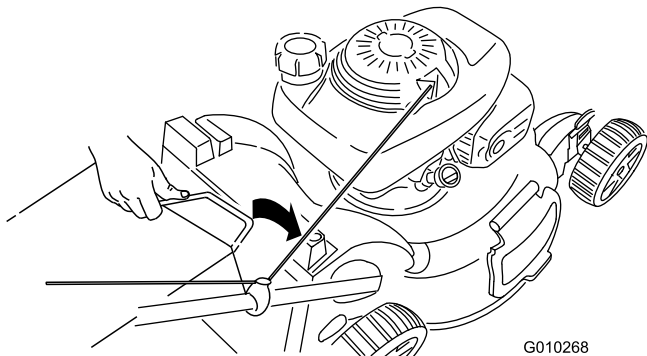

Figure 26
3. Insert the grass-bag handle into the grooves at the top of the machine (Figure 26).